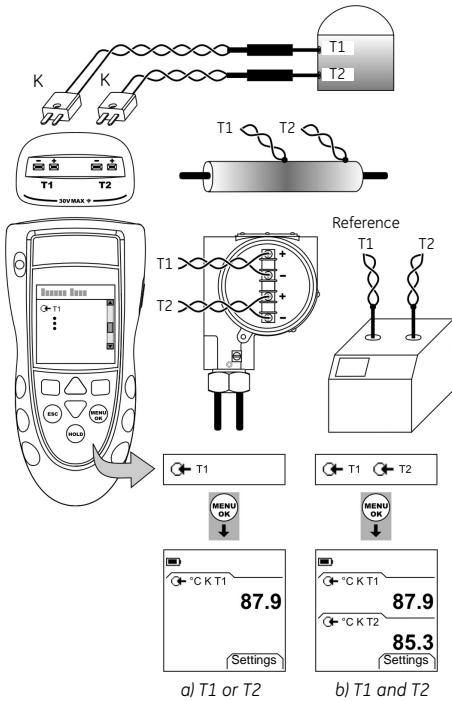

Figure 1: Example configurations - To measure the temperature with one or two thermocouples
Attach the thermocouple wires to the applicable thermocouple mini-connector (Figure 1). The wider blade is the negative.
1. Connect the applicable thermocouples (Figure 1/2) and, if necessary, adjust the Set Up (Table 1).
The examples in Figure 1 show how to compare temperatures or measure different temperatures in a system.